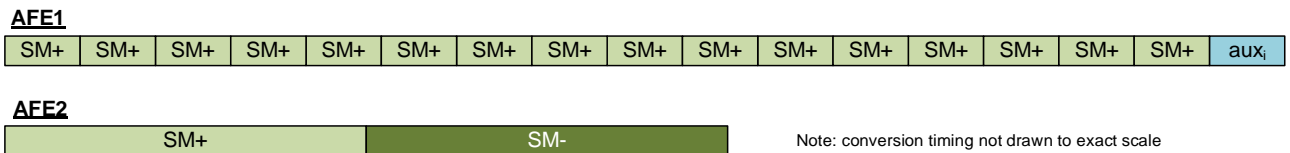

Figure 27: Sequencer Illustration for AFE1 and AFE2
The fast reaction of the bridge sensor input is achieved through AFE1, which runs at low resolution (10 bit) and highest update rate. AFE2 runs on high resolution (SM+/SM- sequencer, 16bit) and a slower update rate according to Table 13. Figure 27 illustrates the sequence of AFE1 and AFE2 measurements.
- The auxi cycle in the sequencer becomes automatically activated if T1 or PTAT are selected. If no temperature sensor is selected, the auxi cycle shown in Figure 27 is removed.